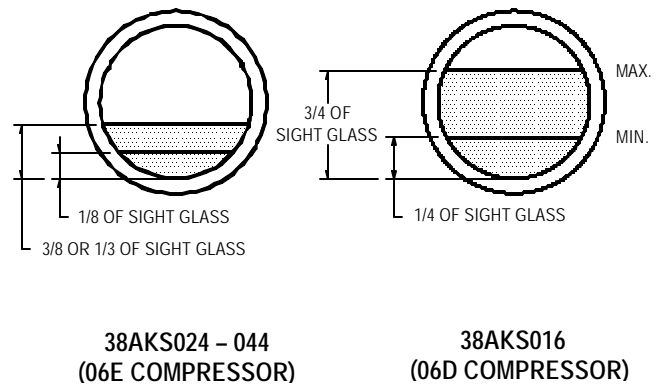

Fig. 9 – Operating Oil Levels
5. Compressor oil level should be visible in sight glass. See Fig. 9. Adjust the oil level as required. Refer to Preliminary Oil Charge section. No oil should be removed unless the crankcase heater has been energized for at least 24 hours.
ADD OIL – Close suction service valve and pump down crankcase to 2 psig (14 kPag). (Low-pressure switch must be jumpered). Wait a few minutes and repeat until pressure remains steady at 2 psig (14 kPag). Remove oil fill plug above the oil level sight glass, add oil through plug hole, and replace plug. Run compressor for 20 minutes and check oil level. See Fig. 9.
If the initial check shows too much oil (too high in the sight glass) remove oil to proper level. See Preliminary Oil Charge, for proper procedure for adding and removing oil. See Fig. 9.